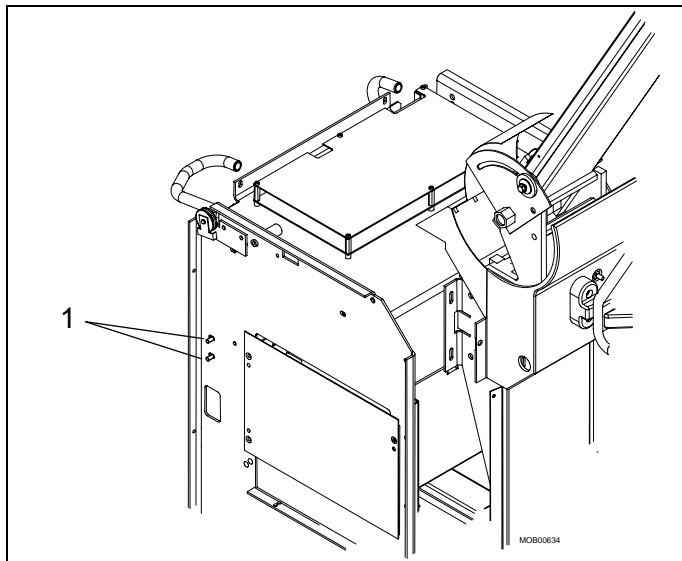

Fig. 15
- Remove the two screws (pos. 1 / Fig. 15).